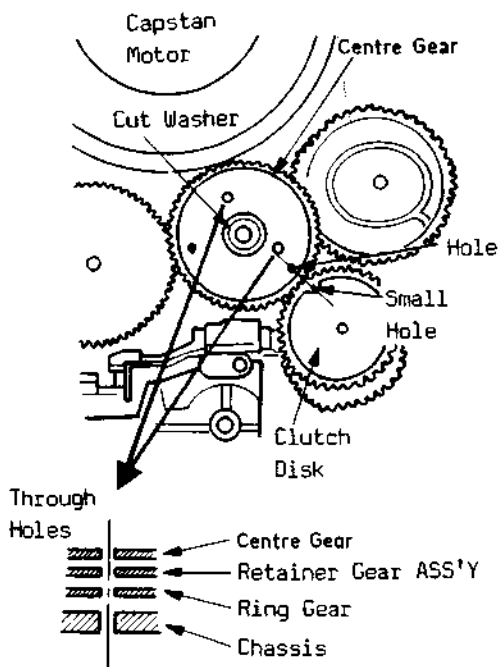

Fig. 4-7
- Install centre gear pos. no. 113(2) on to retainer gear pos. no. 114(2) so that the hole of centre gear is exactly in line with the hole of retainer gear, ring gear and the hole in the chassis, see Fig. 4-7. At this time another hole of the centre gear is exactly in line with the small hole of clutch disk pos. 116(2), see Fig. 4-7, then insert cut washer pos. no. 100(2).